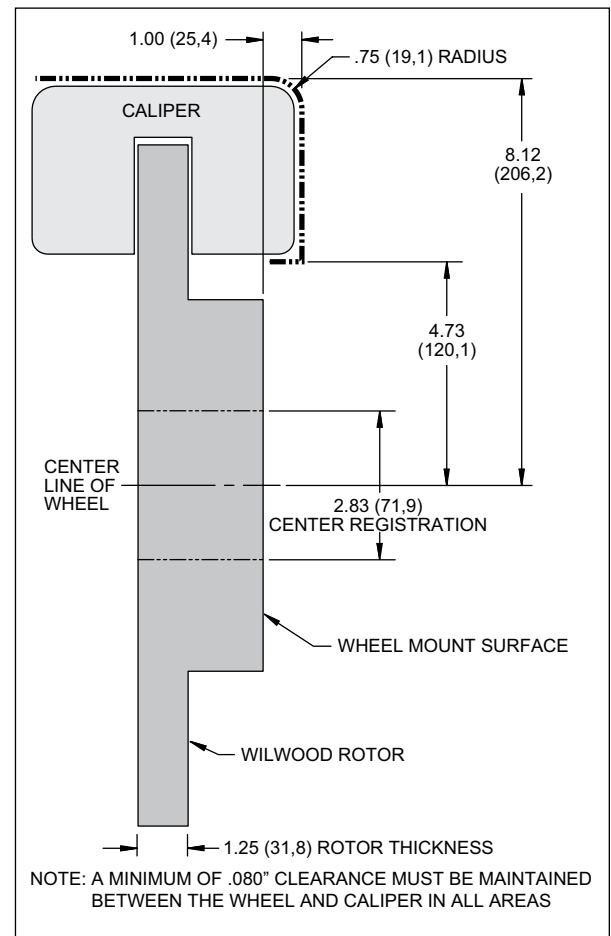

Figure 2. Wheel Clearance Diagram
- Review the Wheel Clearance Diagram (Figure 2, page 3) to verify that there is adequate clearance with the wheels you will be using with the installation..
- Verify your wheel clearance using Figure 2.